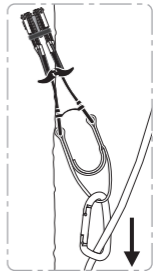

Figure 3
- Align the Totem Cam with the expected loading force (*see figure 3*).